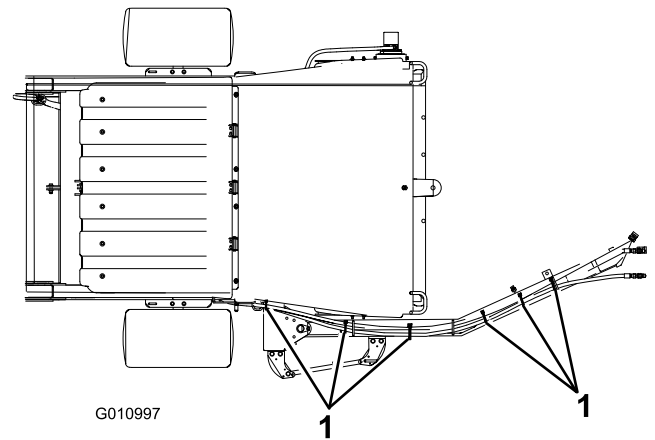
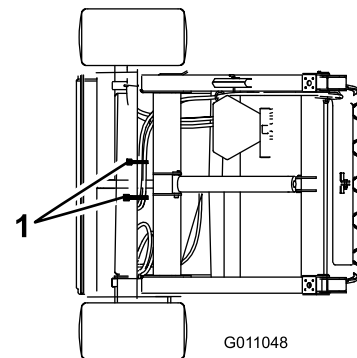

Figure 11
Figure 12
2. Secure the hydraulic hoses and wire harness as shown in Figure 11 & Figure 12.